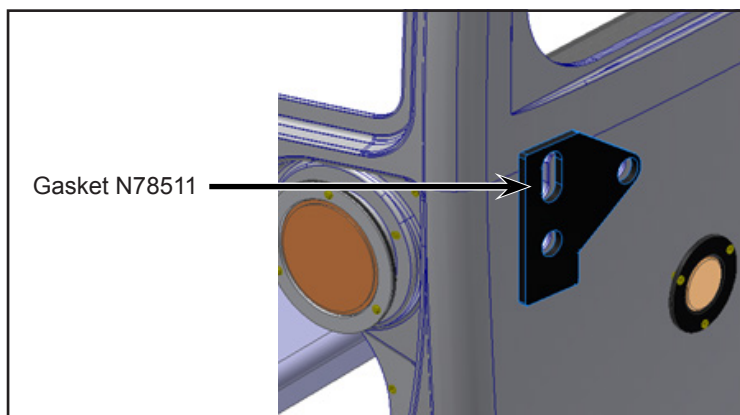

*Figure 23 - Installation of Gasket*
- 1.27. Install gasket N78511 on the gelcoat exterior and align with existing contour (see Figure 23).